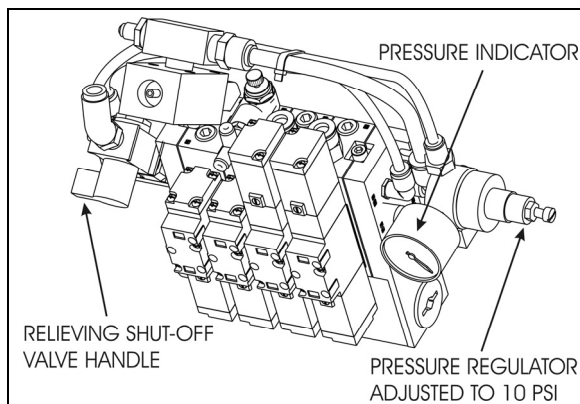

FIGURE 91 : INFLATABLE SEAL RELIEVING SHUT-OFF VALVE
2. Deflate the inflatable seal by using the relieving shut-off valve located on the pneumatic component panel (FIGURE 91).
3. Deflate the inflatable seal by using the relieving shut-off valve located on the pneumatic component panel (FIGURE 91). Turn the handle clockwise to deflate the seal. Make sure the pressure indicator reading is "0 psi".